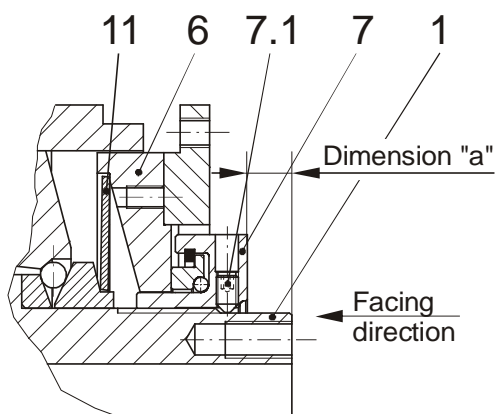
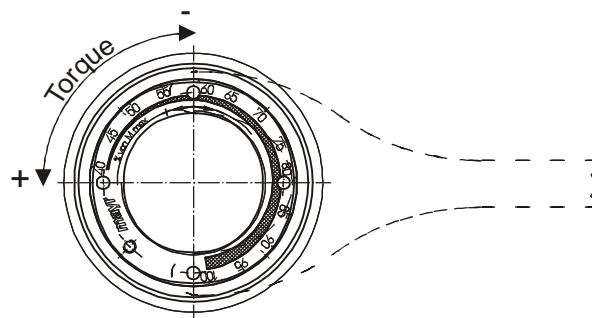
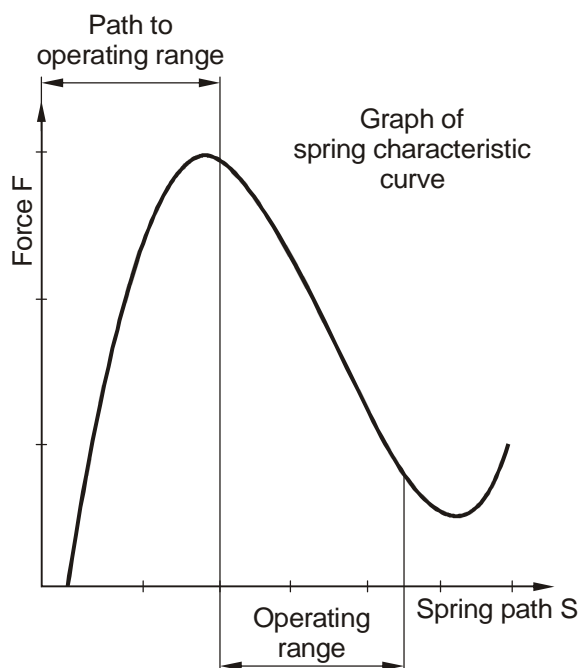

Fig. 8
Fig. 9
Fig. 10
Torque Adjustment (Figs. 8, 9, and 10)
Torque adjustment is carried out by turning the adjusting nut (7). The installed cup springs (11) are operated in the negative range of the characteristic curve (see Fig. 10). This means that tightening the adjusting nut (7) causes the spring force to decrease, and loosening the adjusting nut (7) causes the spring force to increase.
It is possible to check the **"Spring operation in the operating range"** (Fig. 10) using the dimension "a" (distance from the adjusting nut, facing side (7) to the hub edge (1) (Fig. 8)).
You should be facing the adjusting nut (7) as shown in Fig. 8 and Fig. 9.
- 2) Loosen the 4 set screws (7.1) in the adjusting nut (7).
- 3) Turn the adjusting nut (7) using the engraved adjustment scale (Fig. 9) clockwise or anti-clockwise using a hook or a face wrench until the required torque is reached.
- 4) The required torque results from the marking overlap on the hub (1) and the percent value on the adjusting nut (7) (Fig. 9).
Alternatively, the torque can also be adjusted using dimension "a" (Fig. 8) acc. Adjustment Diagram (request at the place of manufacture, if required).
Adjusting the adjusting nut (7) or distorting the cup springs (11) outside of the cup spring characteristic curve (see Fig. 10) stops the clutch functioning.